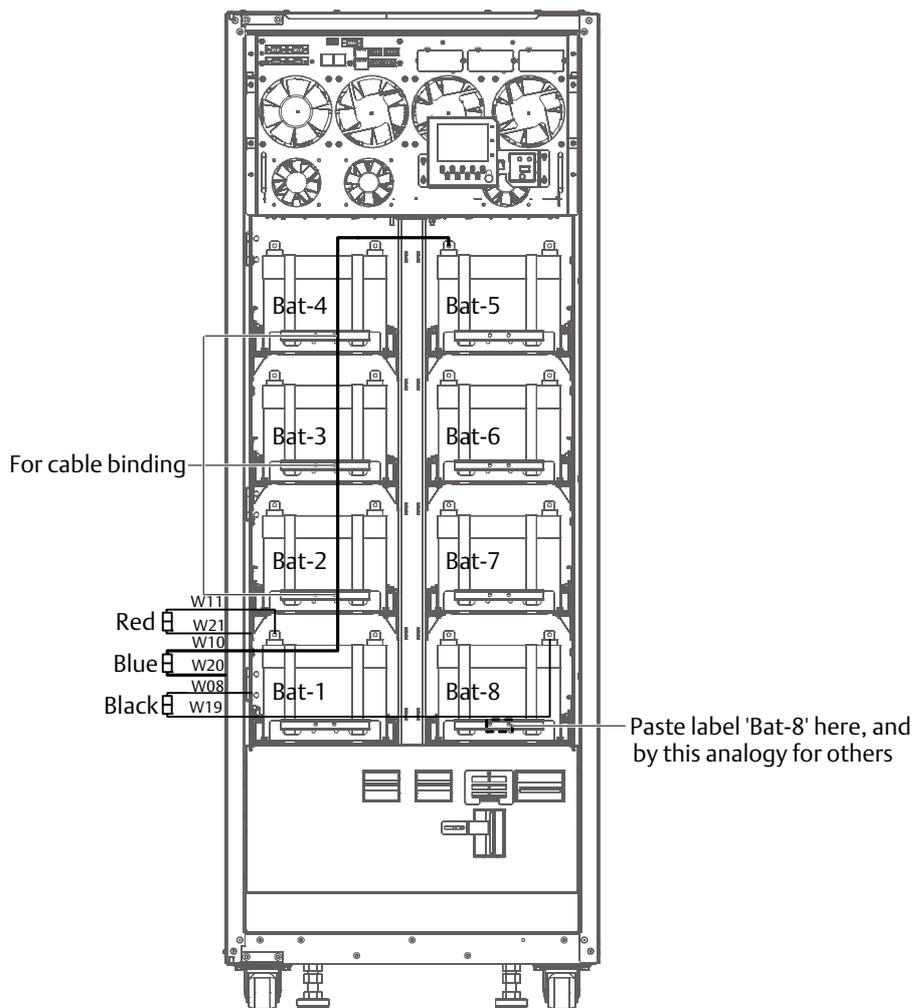

Figure 8-9 Battery tray interconnections
5. AS shown in Figure 8-9, insert the trays with batteries mounted into the battery compartment one by one, and ensure that battery trays N. 1 - 8 correspond to layers 1 - 4 (from bottom to top) of the battery compartment, otherwise the battery voltage may be abnormal.
7. As shown in Figure 8-9, connect the positive terminal of battery tray 1 to the cabinet positive terminal; connect the neutral line terminal of battery tray 3 to the cabinet neutral line terminal, and connect the negative terminal of battery tray 5 to the cabinet negative terminal. Use the multi-meter to measure voltages between battery terminals (+, -, N) shown in Figure 3-2, so as to verify that the cables are connected correctly.